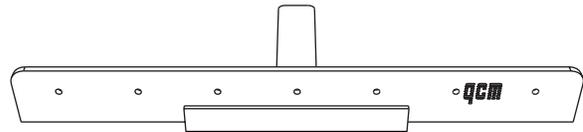

Figure 4
8. Remove the blade from the blade holder and place the blade on a flat surface in a traffic-free area. Place a new (or resharpened) blade on the blade holder as shown in figure 4.
9. Follow the above listed steps 5 through 7 in reversed order to reinstall the blade back on to the blade carrier ②.